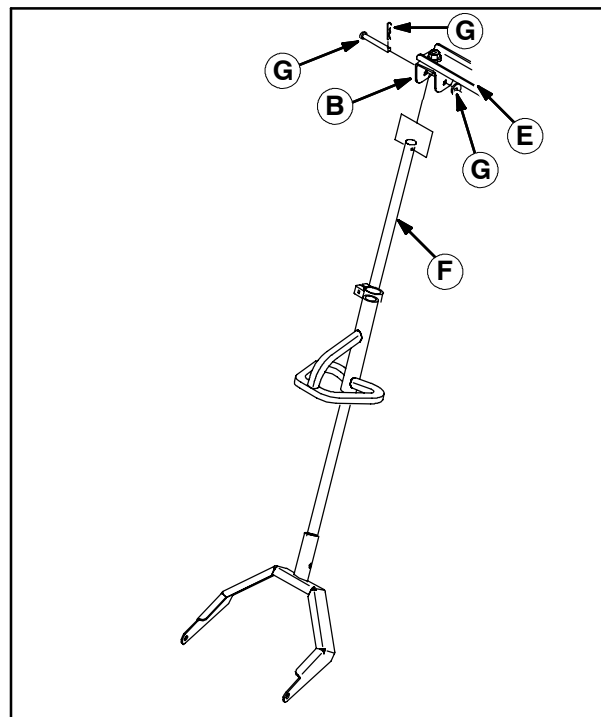

FIG. 1
1. Remove the hardware (G) holding the tube (F) to the bent plate (B) attached to the wing bracket plate (E) and disconnect the tube from the bent plate (B). Set the hardware aside. Refer to Fig. 1.
4. Use existing hardware (G) to reconnect the tube (F) attached to the hose arm handle to the bent plate (1) attached to the wing bracket plate (E) in the previous step. Refer to Fig. 1.